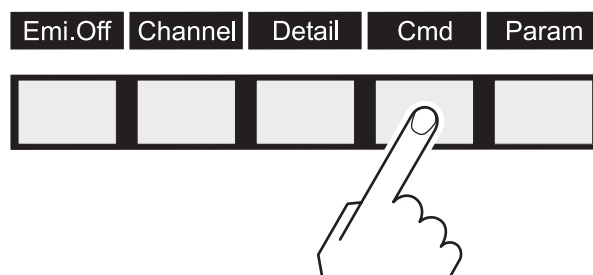

Fig. 4-6 Press the Cmd button
- 2 Press the Cmd button (Fig. 4-6, 23)